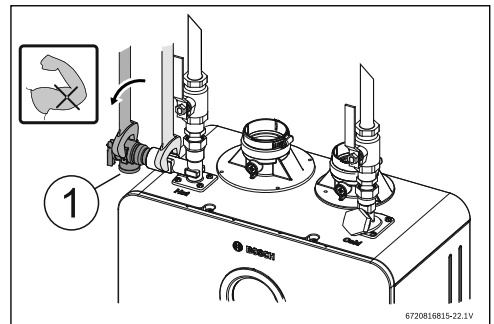

Fig. 27 Plumbing Connections (with shutoff valves) and Pressure Relief Valve
- ▶ Use the integrated port to install the PRV, see Fig. 27 [1].
- ▶ Tighten the PRV with the support of a wrench, see Fig. 27.
- ▶ Full port shutoff valves should be installed on both the cold water supply and hot water outlet lines to facilitate servicing the heater (see fig. 27).